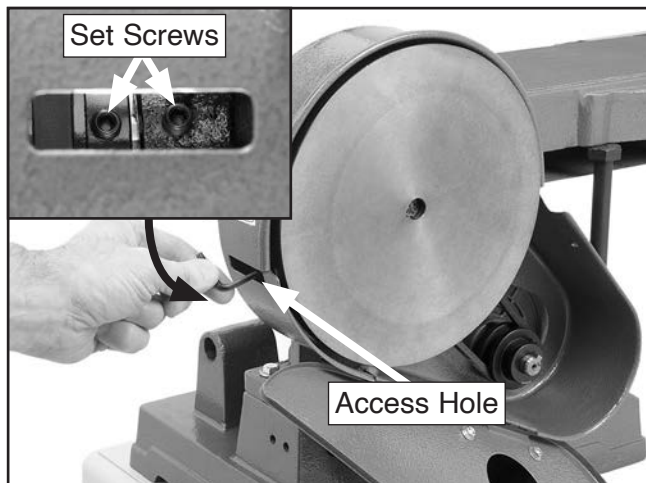

Figure 31. Securing plate to drive shaft.
23. While looking through the access hole on the side of the cover, rotate the plate and tighten each of the set screws to secure the plate to the drive shaft (see **Figure 31**).